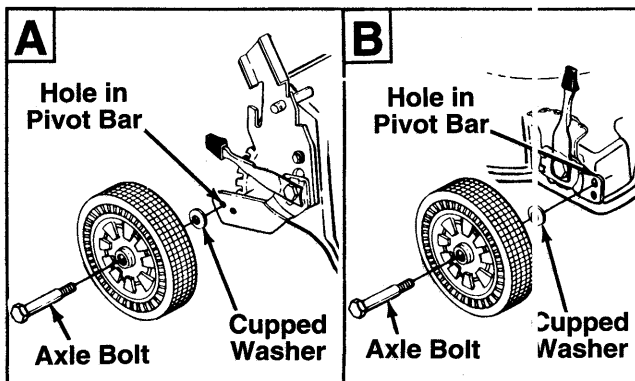

FIGURE 7.
- Attach the wheels to the pivot bar on the height adjusters. Use the top hole in the pivot bar when assembling the front wheels; use the rear hole in the pivot bar when assembling the rear wheels. See figure 7.